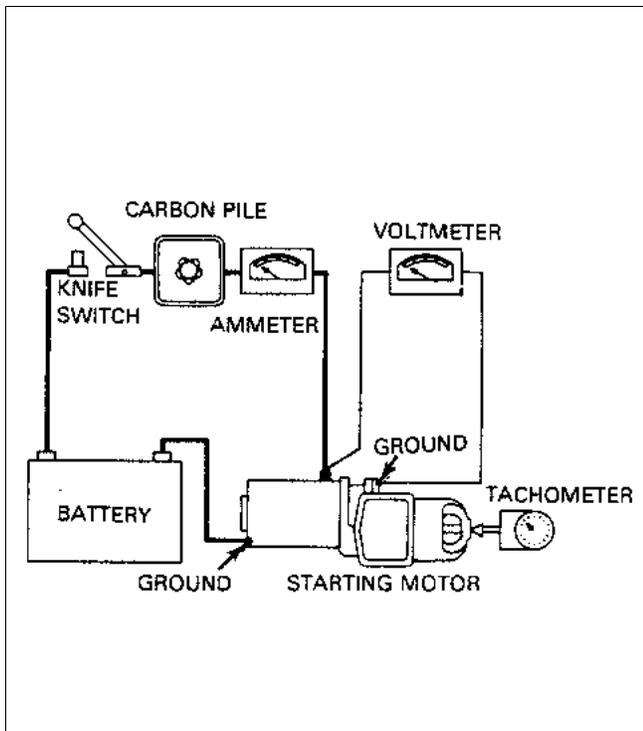

Figure 80-5. No-Load Test Hook-up
- a. After the starting motor is reassembled, it should be tested to see that the no-load current at a certain voltage is within specifications as given in Chart 8002, Starting Motor Service Test Specifications. To make this test, connect as shown in Figure 80-5, if current is too high, check the bearing alignment and end play to make sure there is no binding or interference. Two or three sharp raps on the frame with a rawhide hammer will often help to align the bearings and free the armature.